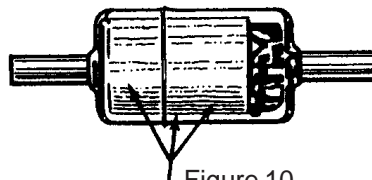

Figure 10
- (14) Turbo Filter - Check for yellow or red color, condensation or free standing water or foreign matter in the filter element. See Figure 10. If the filter is contaminated, reference the engine and/or airframe manufacturer's literature for pressurization system corrective action. Replace turbo filter.